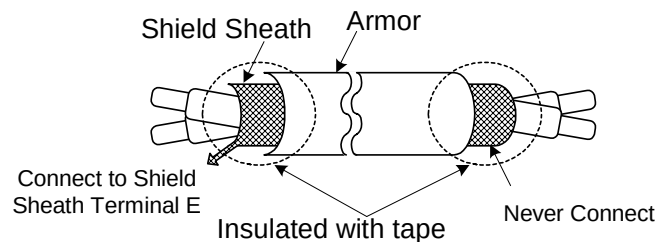

Figure 3 Shielded Wire Termination
- (1) Separate the control circuit leads from the main circuit leads (R/L1, S/L2, T/L3, U/T1, V/T2, W/T3) and other power cables to prevent erroneous operation caused by noise interference.
- (2) Separate the control circuit terminals leads RA-RB-RC (R1A-R2B-R2C) (contact output) from leads to terminals ①~⑧, A01, A02, GND, DO1, DO2 (R2A-R2C), DOG and 15V, VIN, AIN, AUX, GND, IP12, IG12, A (+), A (-).
- (3) Use twisted-pair or shielded twisted-pair cables for control circuits to prevent operating faults. Process the cable ends as shown in Figure 3. The maximum wiring distance should not exceed 150 feet.